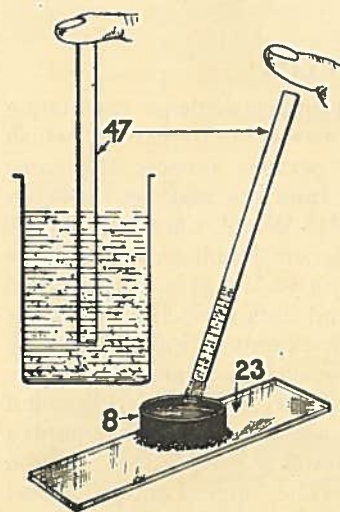

Fig. 9.
The study of crystals is both interesting and instructive. Many cheap and common substances such as Hypo, Salt, Sal Ammoniac, Epsom and Glauber Salts, can be used. Dissolve one or two crystals in a very small quantity of water and transfer with the Collecting Tube (47), a few drops of the solution to a clean slide, as shown in Fig. 9. See that both the Tube and the Slide are perfectly clean and free from dust.
constructed. Mount the Distance Ring (8) on a Glass Slide (23) using Candle Wax, Plasticene, Putty, Gum, or other suitable material to form a watertight joint between the Ring and the Slide. The Aquarium is filled by means of the Collecting Tube (47) as shown in Fig. 9.
LIVING MATTER. (Fig. 9.)